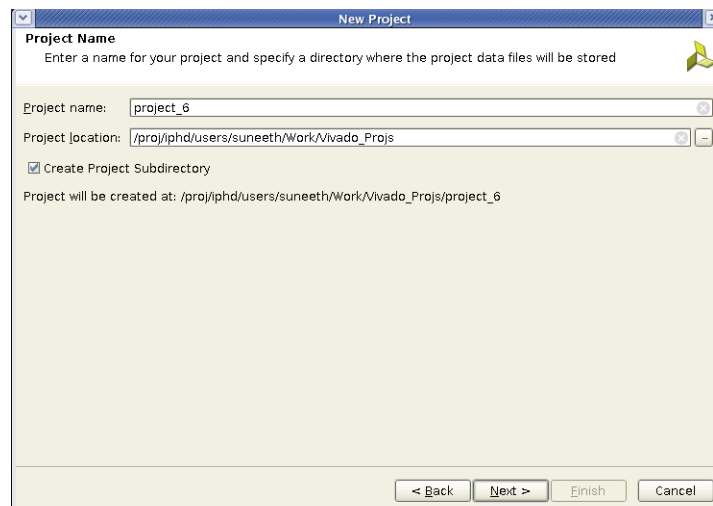
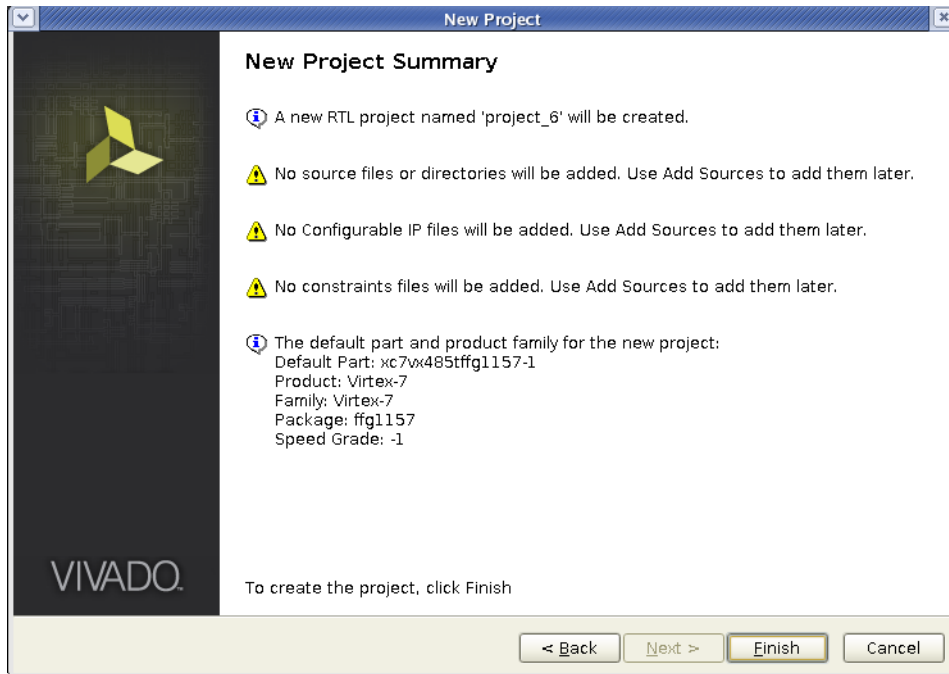

Figure 6-4: Project Name
Figure 6-9: New Project Summary
4. Set the project options (Figure 6-4 through Figure 6-9):
5. Set the project options (Figure 6-4):